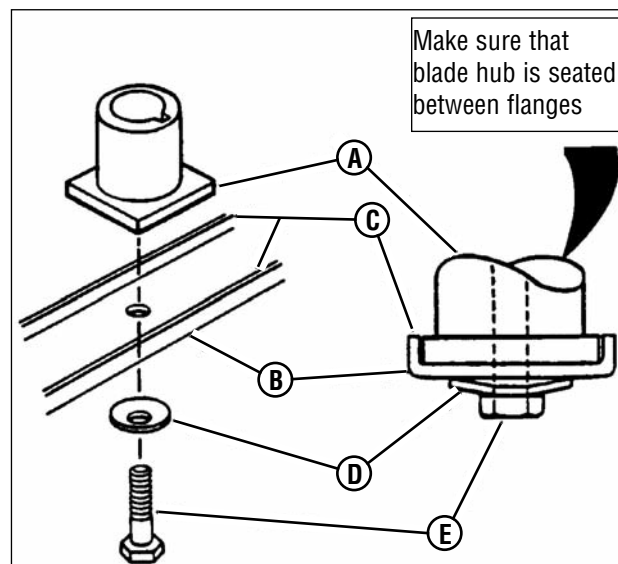

Figure 16: Removing the mower blade
3. Remove the blade (**B, Figure 16**).
6. Reinstall blade (**B, Figure 16**). Note the correct assembly order:
- (A) Blade hub
- (B) Blade
- (C) Blade flange (facing up)
- (D) Cone washer (concave side up)
- (E) Capscrew